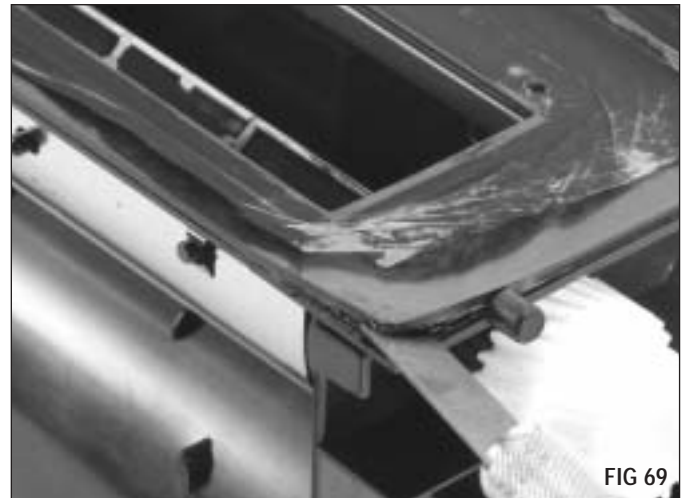
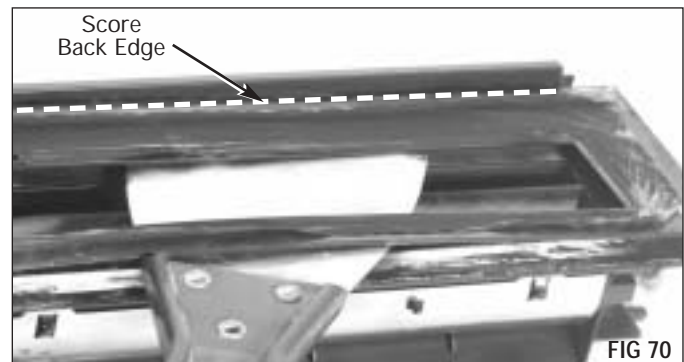

FIG 69
FIG 70
2. Remove and discard the bellows plate from the hopper side (FIG 69 through FIG 71). The bellows plate is held in place by a perimeter sonic weld. Carefully move around the perimeter and pry it up. Score the back edge with a utility knife (FIG 70).